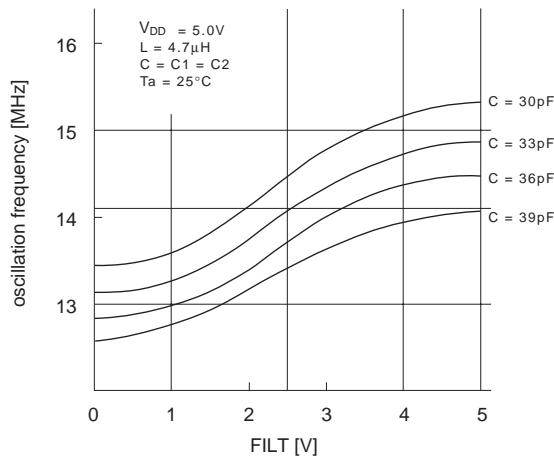

Figure 10 FILT-LC Oscillation Frequency (1)
* See Figures 10 and 11 for the oscillation frequency.
• Adjust the voltage of monitor point in Figure 10 to $1/2V_{DD} \pm 10\%$ by the LC oscillation constant 'L' or 'C' to lock the PLL circuit.